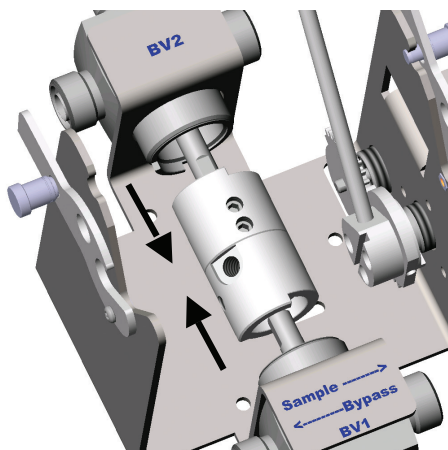

Fig. 3
6. Slide the couplings toward the center. Fig. 3.